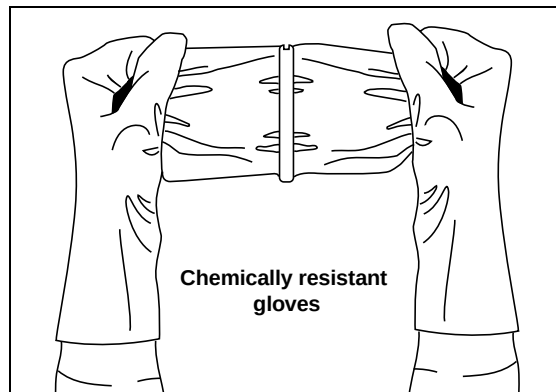

Figure 19. Removing Sealing Compound Clip
4. Remove bag of "Sealing compound" from foil package. Grasp the ends, one in each hand, then pull sharply to remove plastic clip [Figure 19].